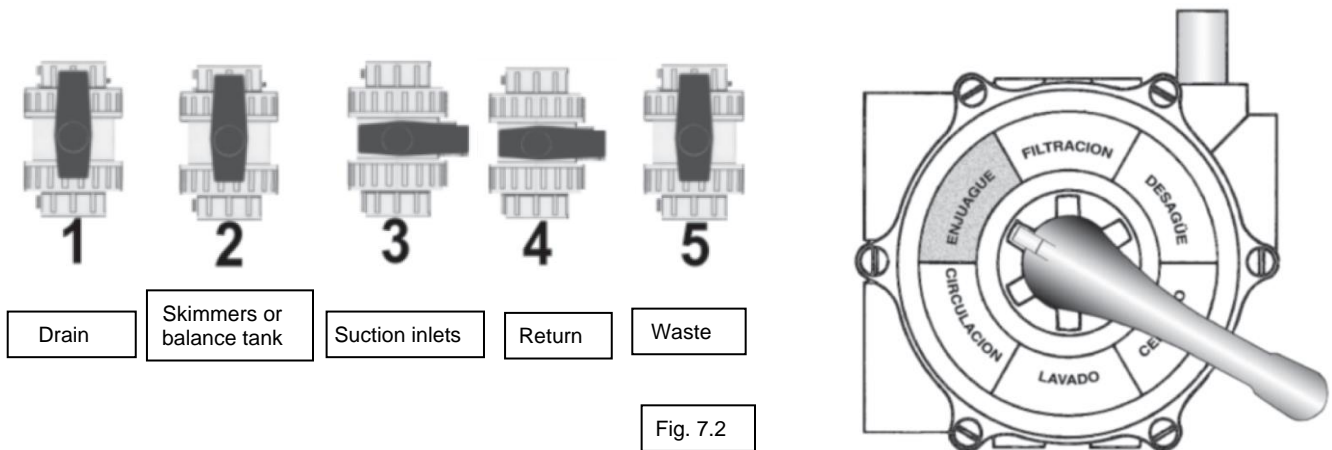

Fig. 7.2
- Stop the pump and set the valves in positions indicated in *Fig. 7.2*.